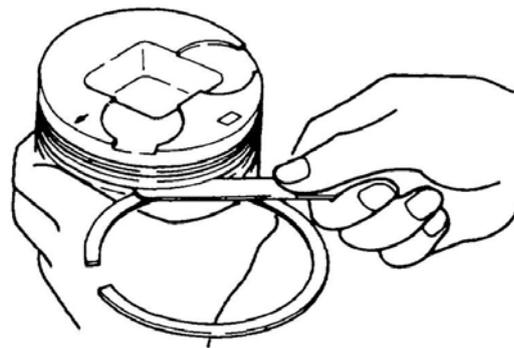

Figure 32 Measuring the Piston Ring Clearance
- x. Ensure that all trace of carbon is removed from the piston ring grooves. With the aid of a set of standard piston rings and feeler gauges, measure the clearance between the piston ring and the ring land (Figure 32). Refer to Table 6 for the standard clearances and limits. Replace any piston where the clearance exceeds the limits.